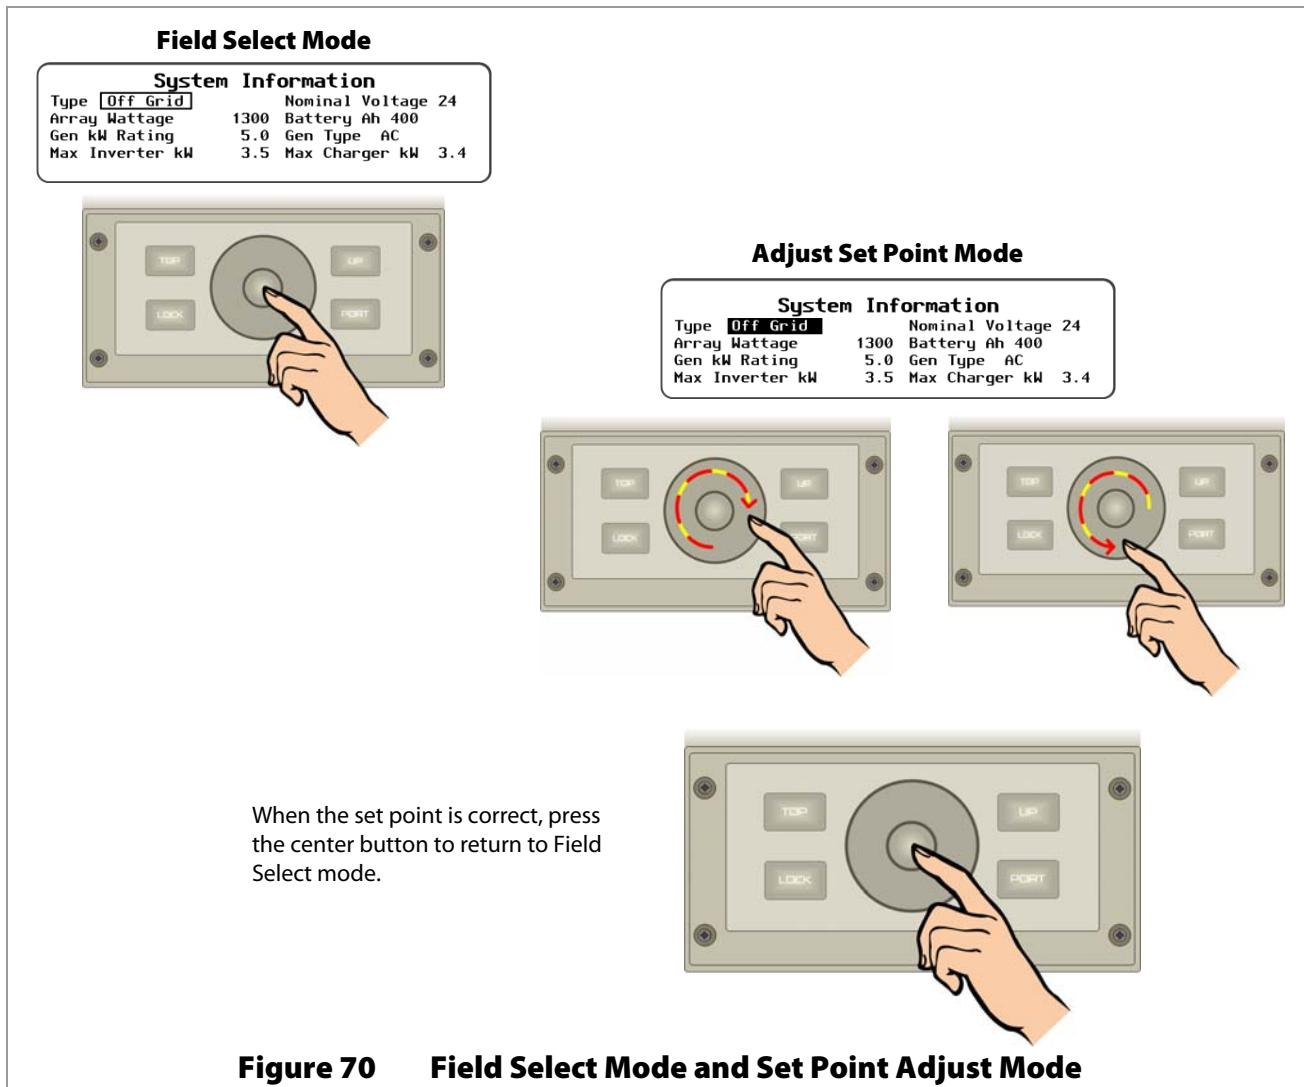

Figure 70 Field Select Mode and Set Point Adjust Mode
- On screens with set points, the control wheel serves two functions; navigation and set point adjustment. It navigates through the set points by highlighting each set point field with a box. This is called *Field Select* mode. When the desired field is highlighted, pressing the center button changes the appearance of the box to solid. This is *Adjust Set Point* mode. The set points can now be adjusted by using the control wheel; clockwise increases the value, counterclockwise decreases the value. When the set point is correct, press the center button again to return to *Field Select* mode. (See Figure 70.)